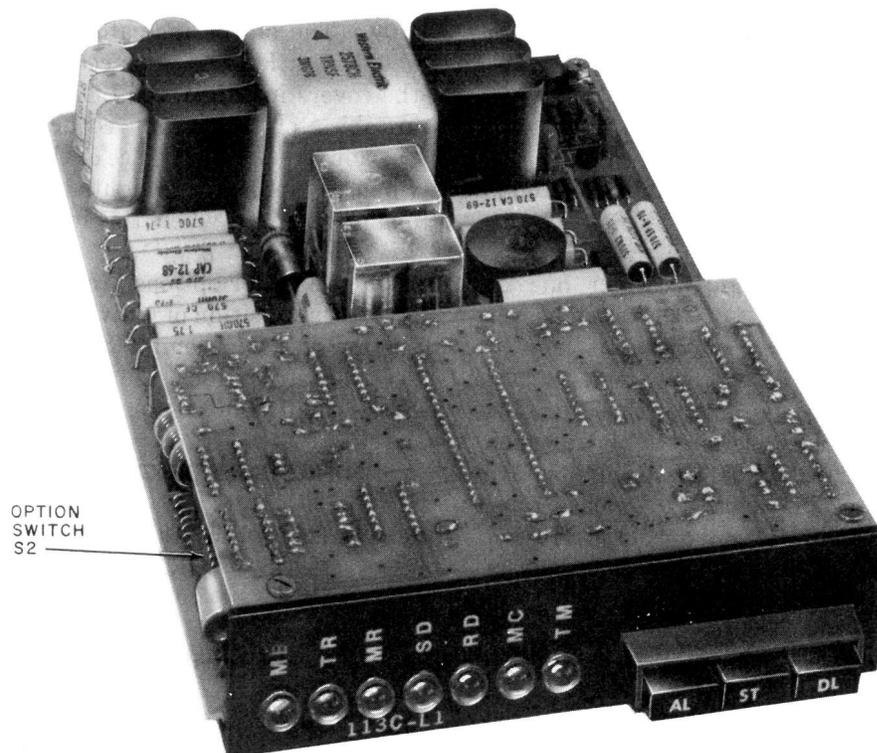

Fig. 2—DS 113CR-L1A
- **DS 113CR-L1A:** Printed circuit pack assembly shown in Fig. 2.